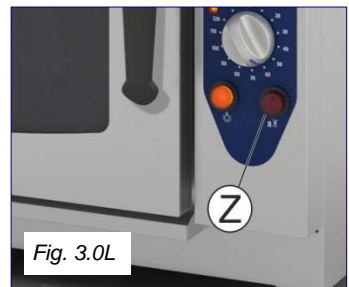

Fig. 3.0L
**3.0L Gas safety valve:** the valve is fitted with an electronic control device that interrupts the flow of gas within 10 seconds if the burners fail to light. Lighting of the burners can be repeated after the electronic device has been manually reset with the push button (Z) located on the control panel. (See Fig. 3.0L)